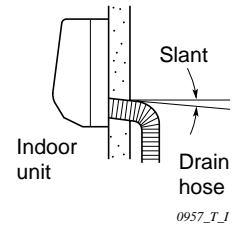

Fig. 3-53
- (a) The drain hose should be slanted downward on the outdoor side. (Fig. 3-53)